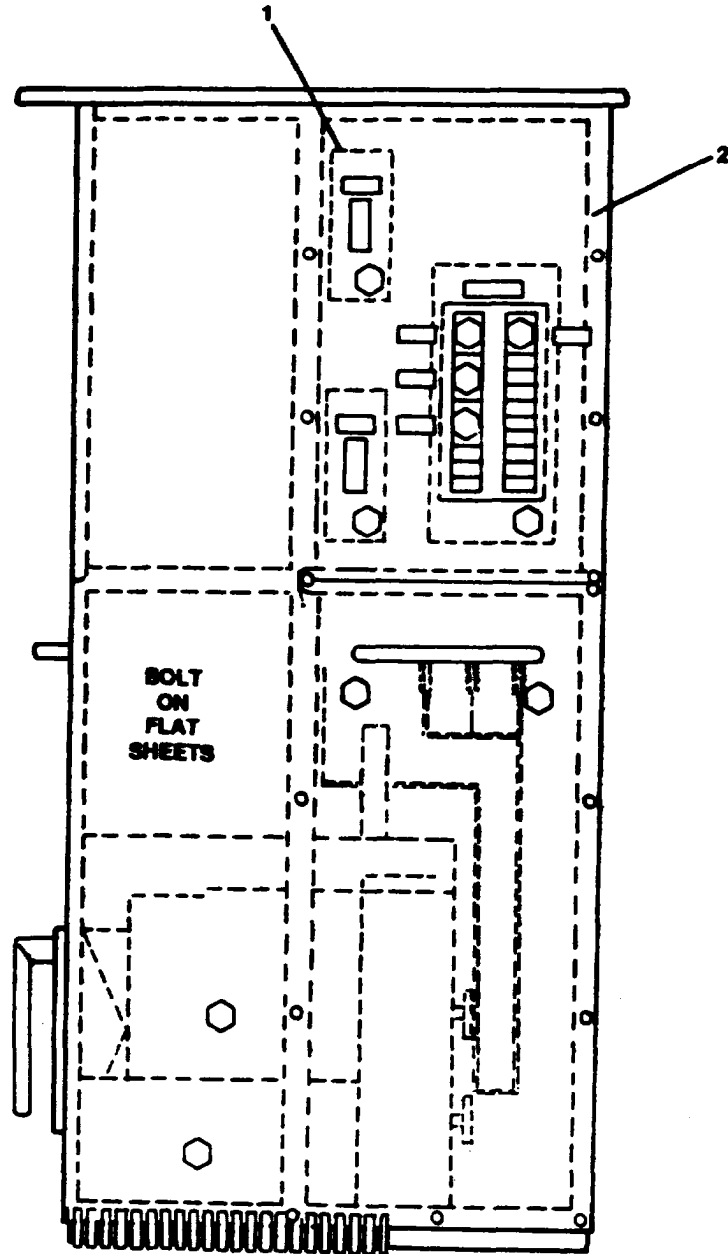

FIGURE 2-217. Ship Service Switchboard Side View Top Right.
**2-296. Repair Ship Service Switchboard Circuit Breakers. (FIGURE 2-217)**